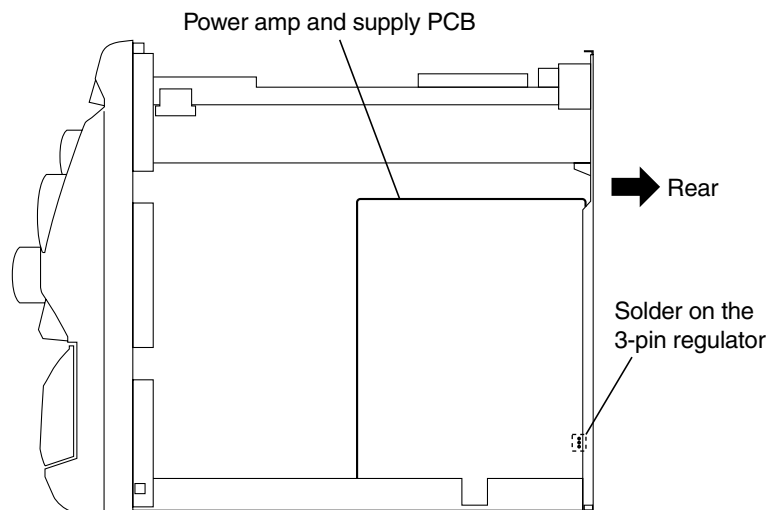

Fig.33
- Also remove the rear panel. (See Fig.33)